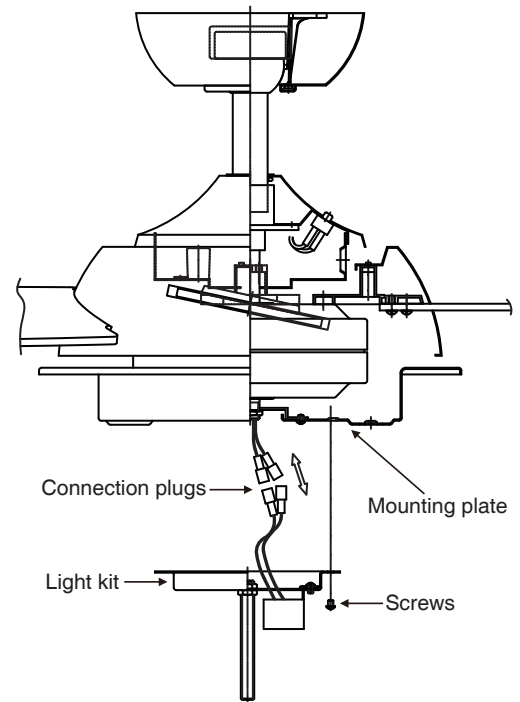

Fig. 13
3. Place the key holes on the light kit over the 2 screws previously loosened from the mounting plate, and turn light kit until it locks in place at the narrow section of the key holes. Secure by tightening the 2 screws previously loosened and the one previously removed. (Fig. 13)